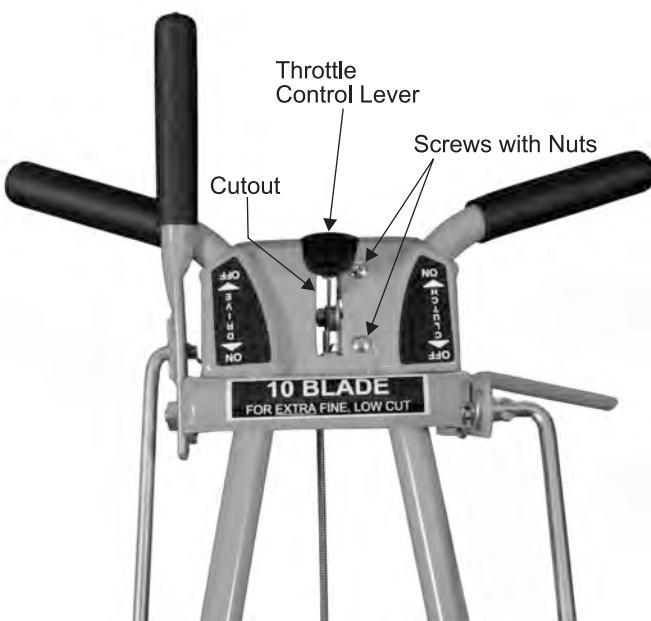

FIGURE 5: Twist the throttle control lever so the knob can pass through the cutout in the panel and attach with Screws and nuts provided.
- Hold the control lever at the end of the throttle cable and twist it slightly so the knob can pass through the cutout in the upper handle control panel (see figure 5).